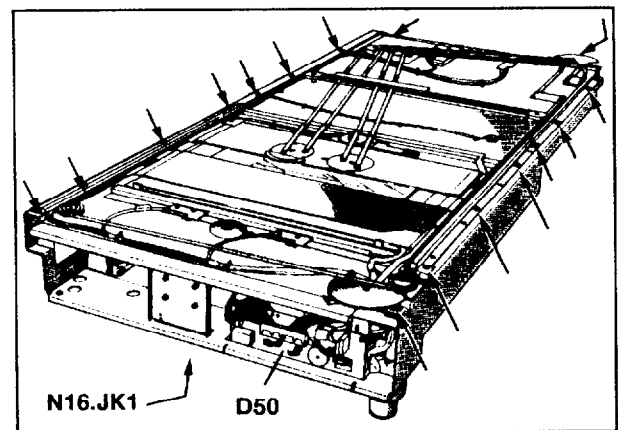

Fig. 5
- Using an Allen key, unscrew all 14 Allen screws from the installation plate (↗/Fig. 5) and remove the installation plate.